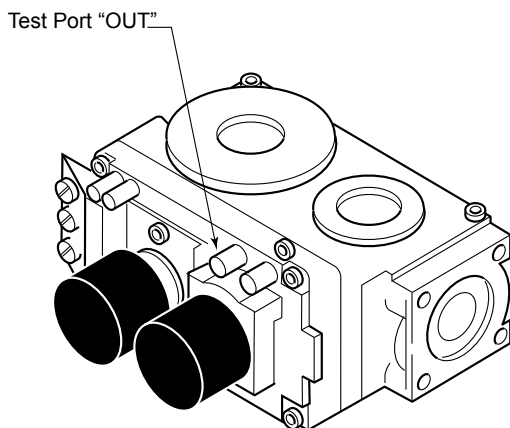

Figure 4.2 - Pressure Test Point Location Millivolt Control
- Valve pressure taps are accessible by removing the right side log. See Figure 4.2.
Turn captured screw counterclockwise two or three turns and then place tubing to pressure gauge over test point (use test point "OUT" closest to control knob). After taking pressure reading, be sure and turn captured screw clockwise firmly to re-seal. Do no over torque. Check for gas leaks. See Figure 4.2.